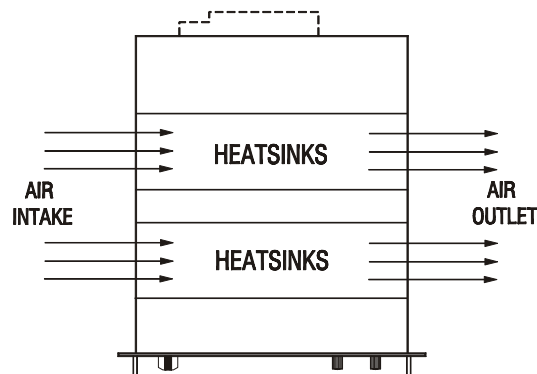

fig. 4 - 13
- The internal construction of the power supply is such that no dust will reach the sensitive control circuitry, only the heat sinks in a tunnel will be cooled by forced air (see fig. 4 - 13)